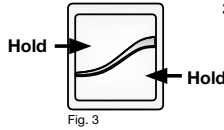

Fig. 3
3. Press and hold the UP and DOWN buttons until the LED turns amber (about 3 seconds) then release buttons. (Fig. 3)